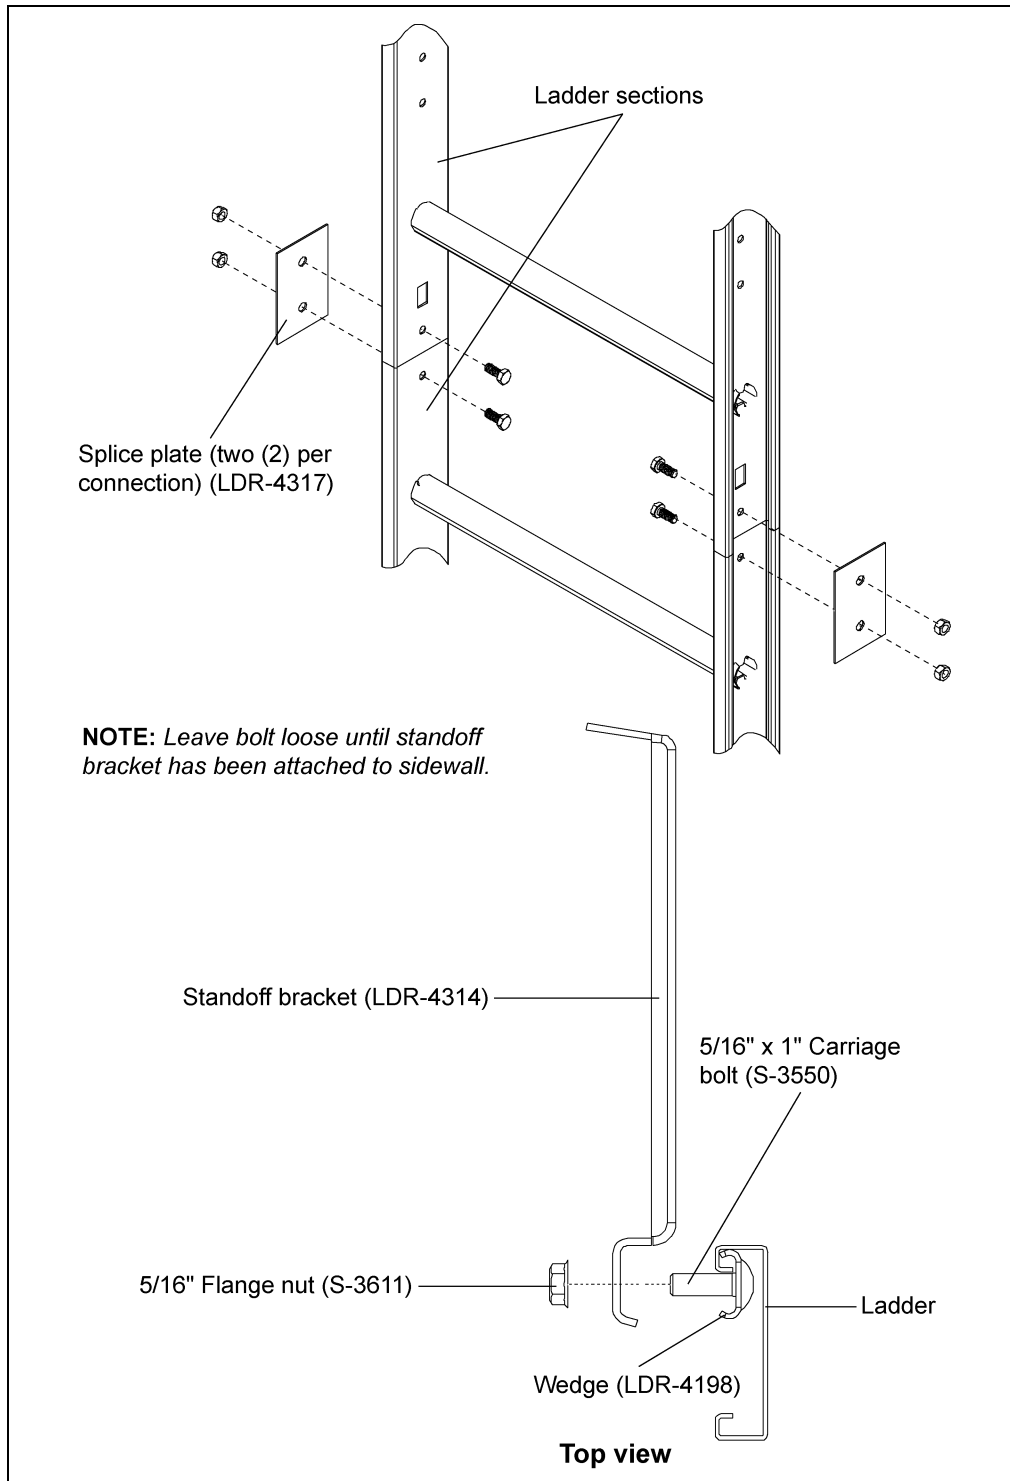

Figure 3
Two (2) splice plates are required to attach each additional ladder section. The head of the bolt should be to the inside of the ladder with the splice plate on the outside as shown in Figure 3. Use 5/16" x 3/4" bolts for all connections.